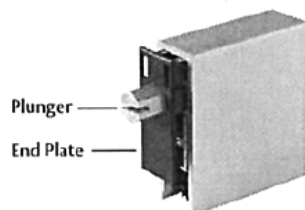

Figure 9
4. Next insert the plunger end plate with the hexagon hole. This pushes straight in. It also serves to prevent the plunger from rotating and changing adjustment (as shown in Figure 9 and Figure 10). If this end plate needs to be removed for readjustment, it can be removed in two ways: (1) push the drop bar towards the hinge side of the door and it will eject the end plate; (2) prying at the top of the end plate with a knife or other tool. Do not pry at the bottom. This will cause it to break.